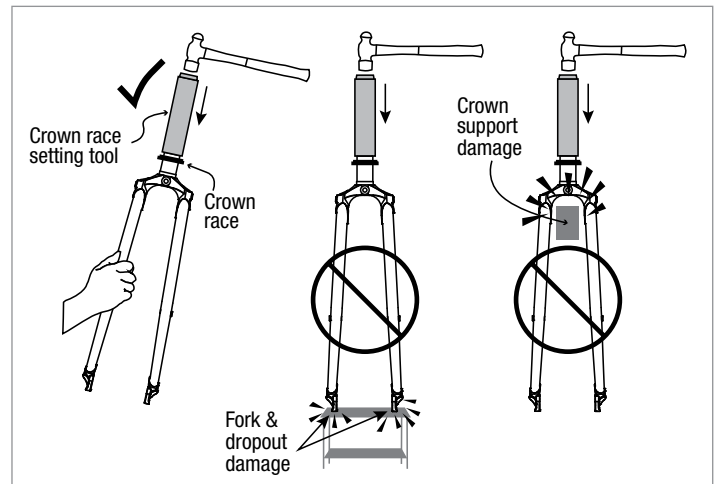
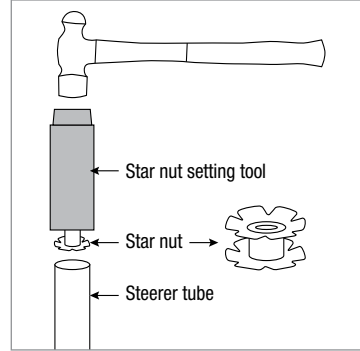

Figure 1
Figure 7
▲ WARNING: Do not place the fork on the dropout tips or support the fork in the crown area while installing the crown race. Doing so can damage the fork (Fig. 1).
- A. Hold the fork with one hand (Fig. 1) and install a new star nut using a star nut setting tool and hammer (Fig. 7).